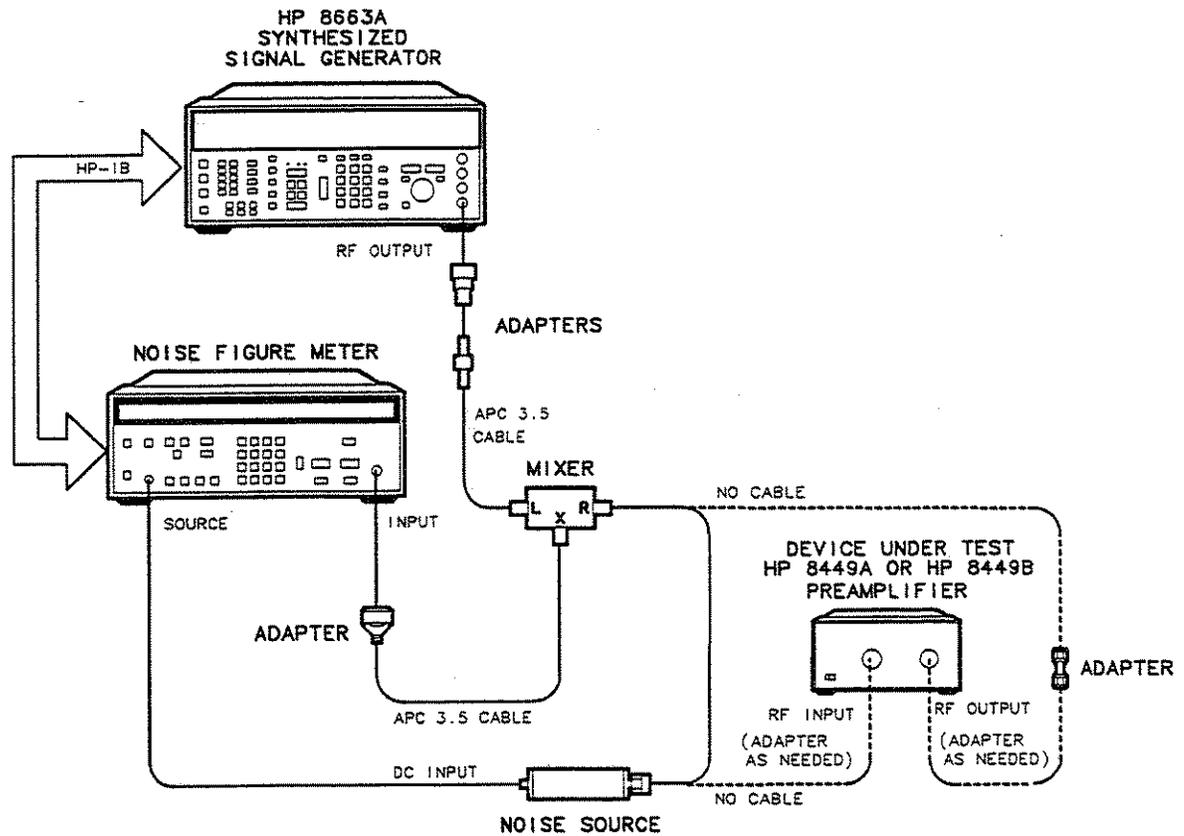

Figure 4-3. Alternate Noise Figure Test Setup for <2.5 GHz
This test measures the noise figure of the preamplifier below 2.5 GHz. First, the source and noise figure meter are connected to calibrate the test setup without the preamplifier in the circuit. The preamplifier is then added to the circuit and the noise figure is measured. The test setup is illustrated in Figure 4-3.
1. Connect test equipment indicated by the solid lines in Figure 4-3. Do not connect the HP 8449A or HP 8448B Preamplifier at this time.
6. When calibration is finished, make the following connections illustrated with dashed lines in Figure 4-3.